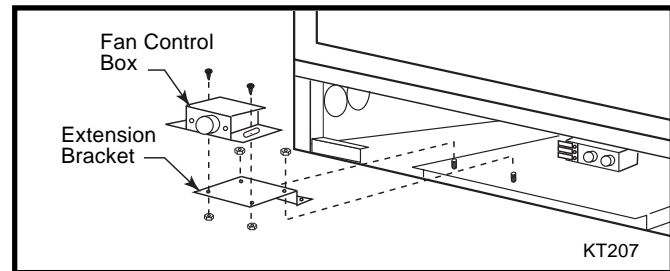

Fig. 32 Attach the control box to the bracket and install bracket into the cabinet.
- Attach the Fan Speed Control Box to the Bracket (Fig. 32) and install the Bracket into the Cabinet.